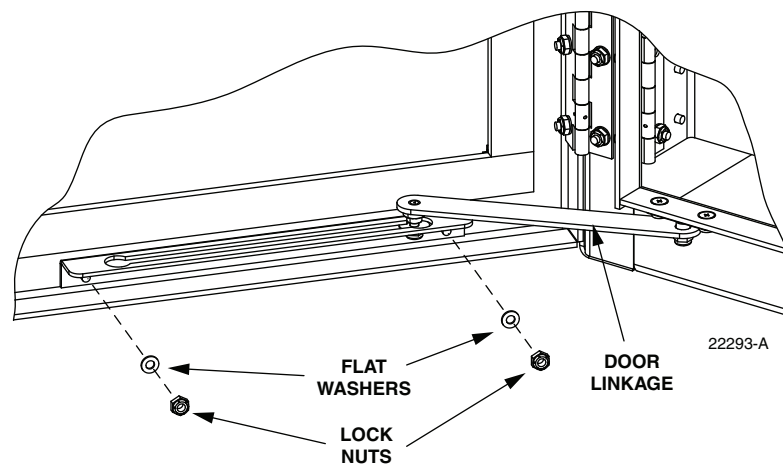

Figure 27. Door Linkage Hardware
2. Use a 3/8-inch nut driver to remove the locking nuts and washers that secure the door bracket slide to the bottom edge of the door as shown in Figure 27. Save the nuts and washers for reuse.